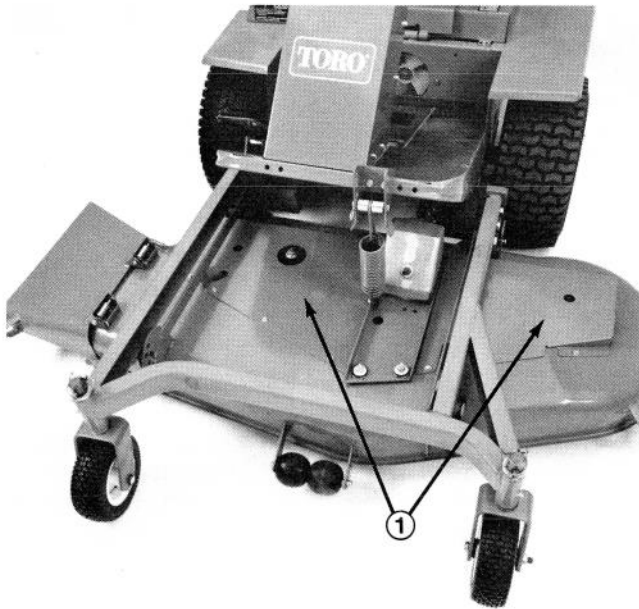

Figure 36
2. Remove capscrews securing pulley cover on top of spindle housing to be serviced (Fig. 36). Also remove cover over idler pulley (Fig. 36) and loosen two nuts securing idler plate in place. This will release tension on the drive belt.